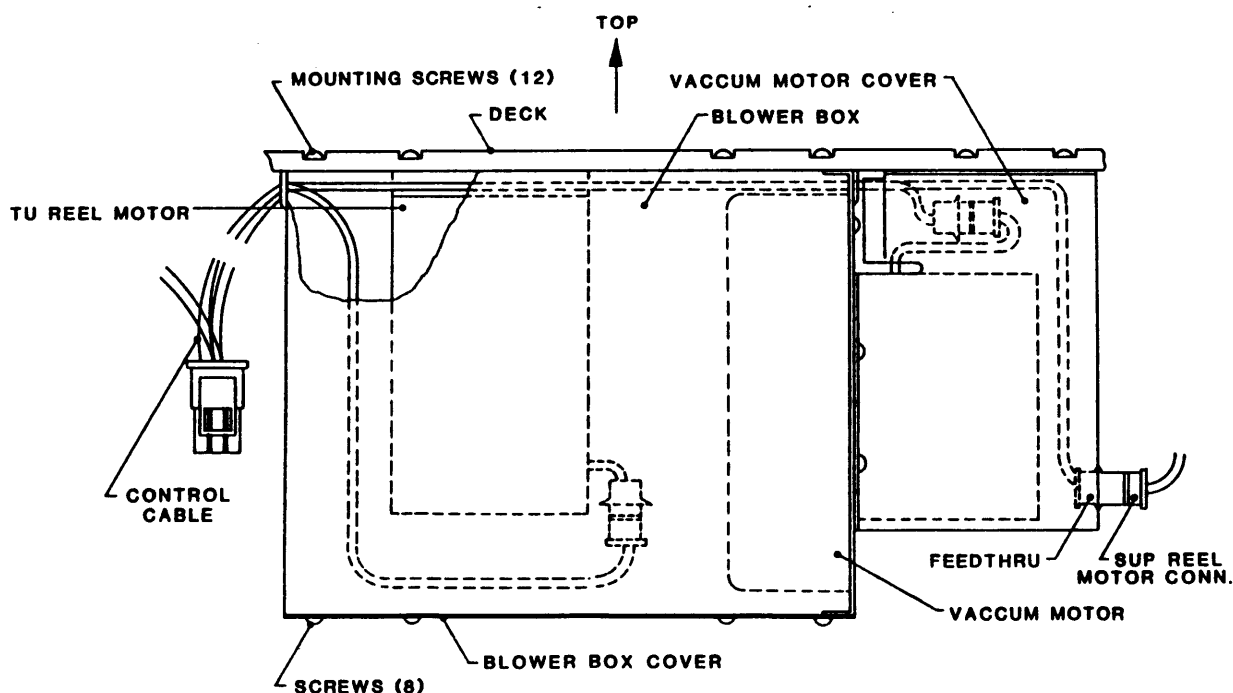

Figure 5-17. Blower Assembly
5.3.21 BLOWER ASSEMBLY (Figure 5-17)